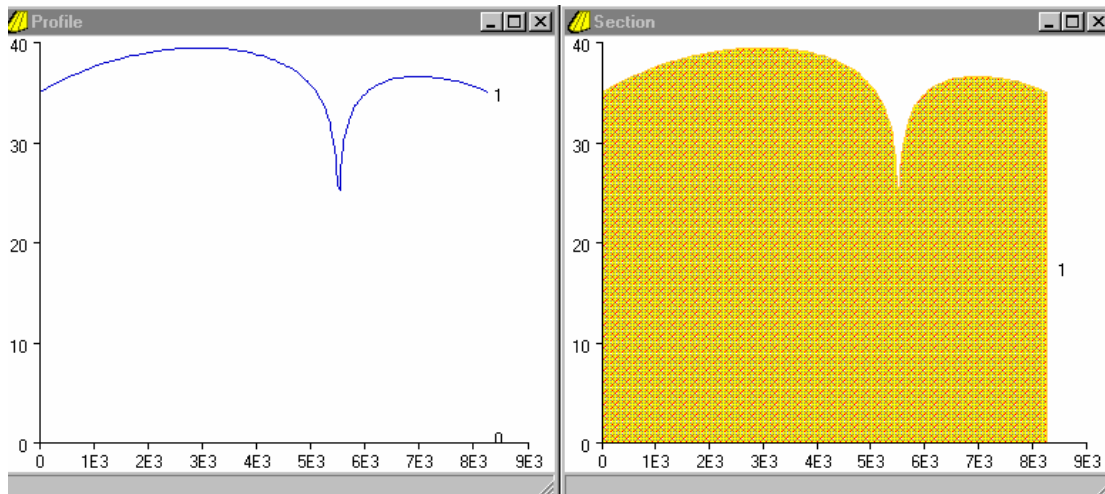
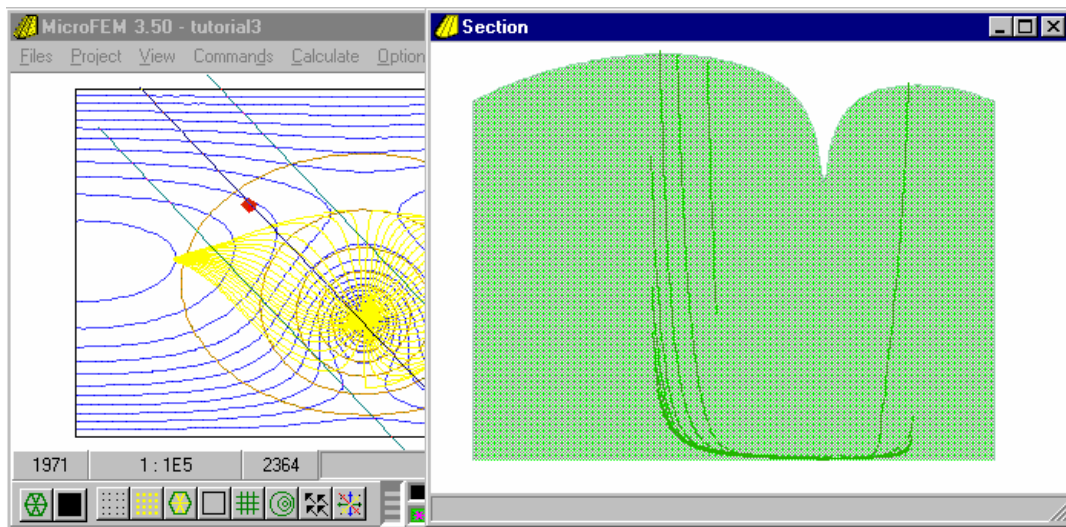

Figure 47: Head profile and cross section across well
Figure 54: Cross section with flowlines (1)
- Now again click on the -button (Select profile) to position the cross-section trace from the northern to the southern model boundary, along the line connecting the landfill and the well (left mouse button = left extreme, right mouse button = right extreme). Now click again on the -button to deselect it; open a head-profile window and a cross-section window to obtain the following pictures Figure 47:
1. Simply go to Drawing mode, click on the -button and select a suitable cross-section trace. Then simply click on the -button and the cross section will appear more or less like Figure 54 (in case of the same cross section over the landfill and the well of Figure 47):
2. Admittedly, the flowlines do not look very impressive in the cross section, where some flowlines are only partly displayed. This is actually caused by the width of the flowline area, which is the area between the two (light-blue) lines at both sides of the (dark-blue) cross-section trace (see Figure 54). Only those parts of the flowlines are projected onto the section that lie within the flowline area.